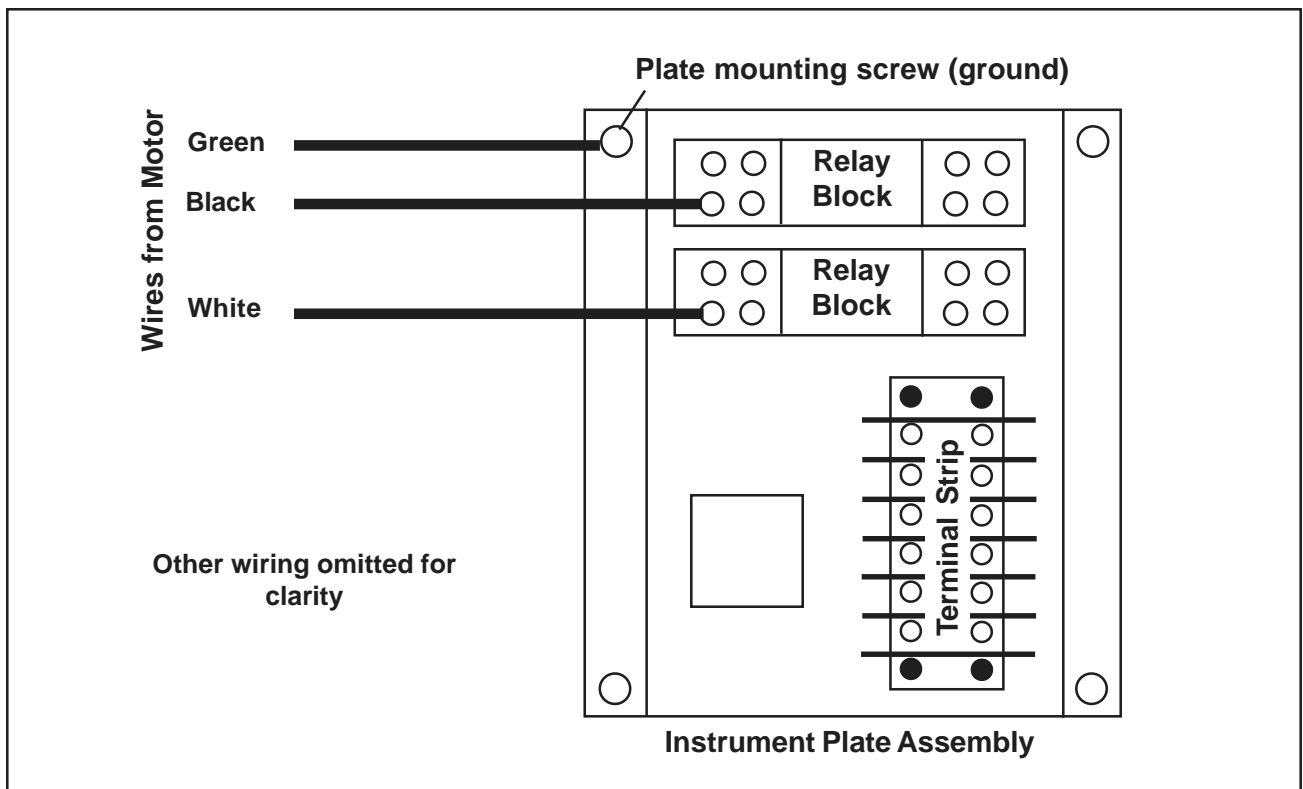

Figure 27. Motor Wire Connections to the Instrument Plate Assembly
10. With a Phillips screwdriver, remove the green motor wire from the mounting screw on the instrument plate assembly (Figure 27).
11. With a Phillips screwdriver, disconnect the white motor wire from the relay block on the instrument plate assembly (Figure 27).
12. With a Phillips screwdriver, disconnect the black motor wire from the relay block on the instrument plate assembly (Figure 27).
9. Connect the green motor wire to the mounting screw on the instrument plate assembly (Figure 27).
10. Connect the white motor wire to the relay block on the instrument plate assembly (Figure 27).
11. Connect the black motor wire to the relay block on the instrument plate assembly (Figure 27).
Motor Wires (refer to Figure 27)